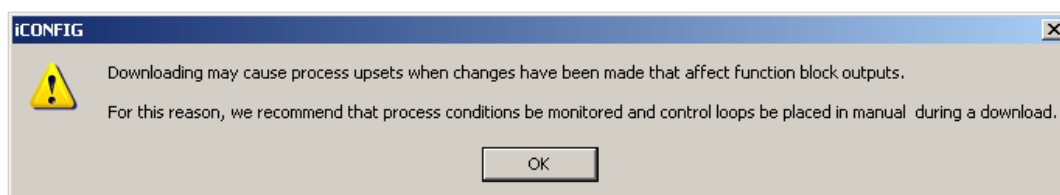

Figure 5-8 Download caution message
1. Select **File > Download > Download From File**. The download caution message similar to that in Figure 5-8 will appear. Read the message, click **[OK]**, and take appropriate steps to avoid a process upset. Note that the configuration downloaded in step 5 will become the active configuration in the selected controller.